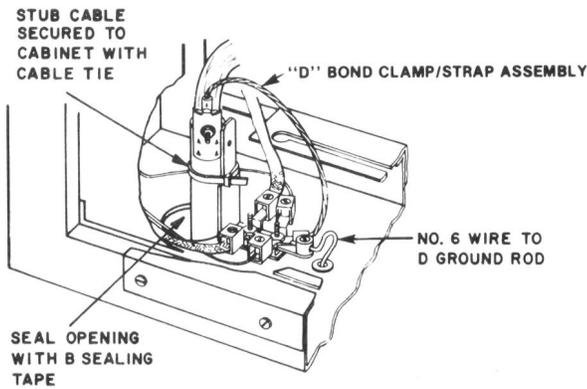

Fig. 5—Bonded Cable Sheath and Cabinet
- 3.16 Using the lug provided, attach No. 6 ground wire to angle as shown in Fig. 5. Attach the other end to the D ground rod.